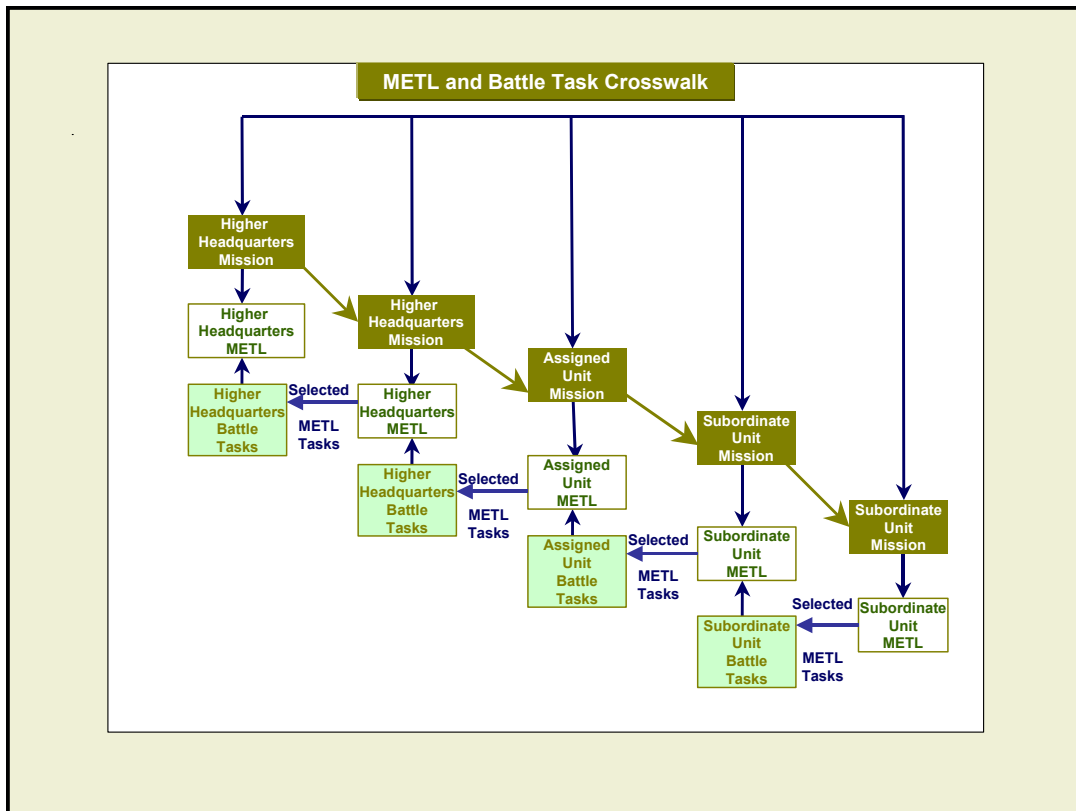

Figure 1-7. Relationships Between Mission, METL, and Battle Task
b. **Battle Tasks.** After review and approval of subordinate organizations' METL, the senior commander selects battle tasks. A battle task is a staff or subordinate organization mission essential task that is so critical that its accomplishment will determine the success of the next higher organization's mission essential task. Battle tasks are selected for each METL task. Figure 1-7 depicts the relationship between wartime missions, METL, and battle tasks. Battle tasks allow the next higher commander to define the training tasks that --